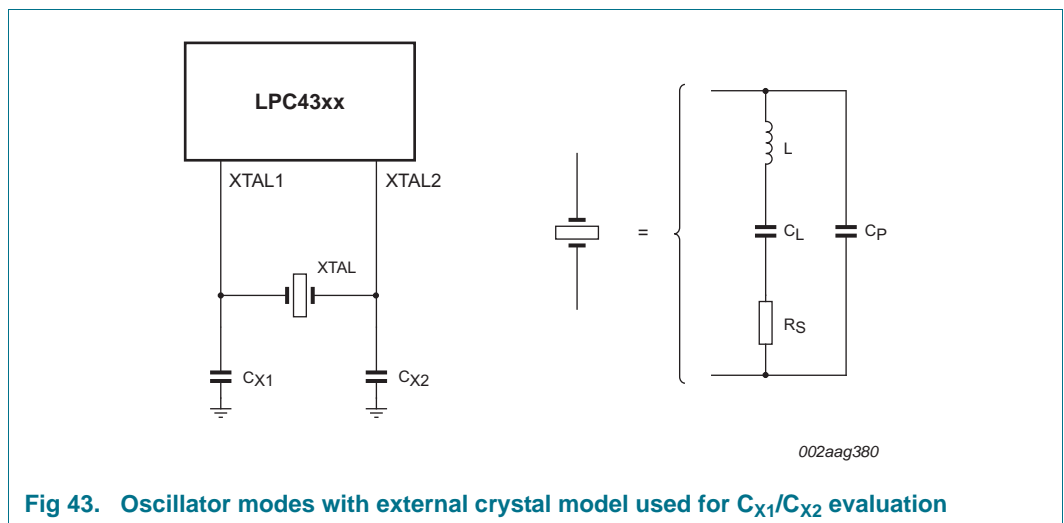

Fig 43. Oscillator modes with external crystal model used for C_{X1}/C_{X2} evaluation
- External components and models used in oscillation mode are shown in Figure 43, and in Table 42 and Table 43. Since the feedback resistance is integrated on chip, only a crystal and the capacitances C_{X1} and C_{X2} need to be connected externally in case of fundamental mode oscillation (L, CL and RS represent the fundamental frequency). Capacitance C_P in Figure 43 represents the parallel package capacitance and must not be larger than 7 pF. Parameters FC, CL, RS and CP are supplied by the crystal manufacturer.